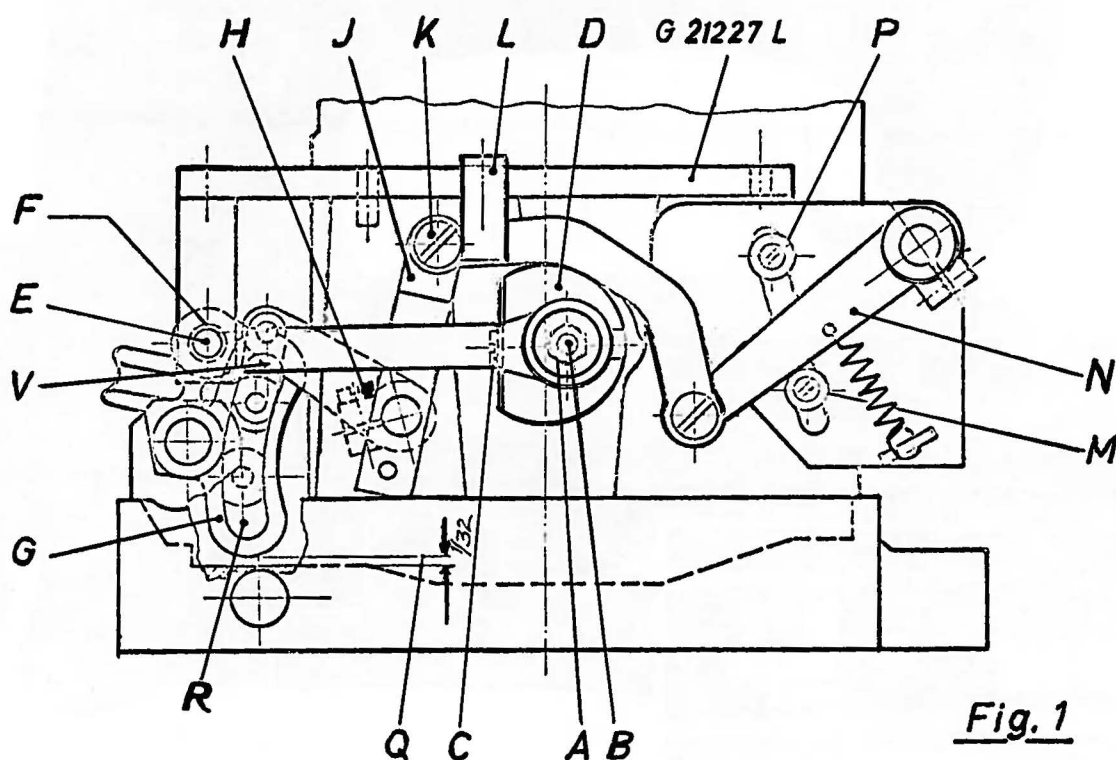

Fig. 1
The feed mechanism is set in the assembly department by using gauge G21227 L. To adjust rocker "G" loosen nut (A, Fig. 1) (CAUTION! NUT HAS LEFT THREAD). Place the feed crank stud (B) in the main shaft slot (D) and regulate screw (C) so that the pin (E) of the gauge fits into the hole (F) of the feed rocker shaft, when the upper part of the segment of the rocker (G) is in its end position to the needle. Tighten nut (A). Loosen screw (H), place distance gauge (V) in the segment of the rocker (G) and press the sliding block against the distance gauge (V). Move lever (J) until the head of screw (K) contacts the stop (L) of the gauge. Tighten screw (H). Then set stop ring (M) against lever (N).
CAUTION! BE SURE THAT THERE IS 1/32 INCH SPACE BETWEEN THE SEGMENT (G) AND THE BED AT THE LARGEST STITCH LENGTH (Q, Fig. 1).